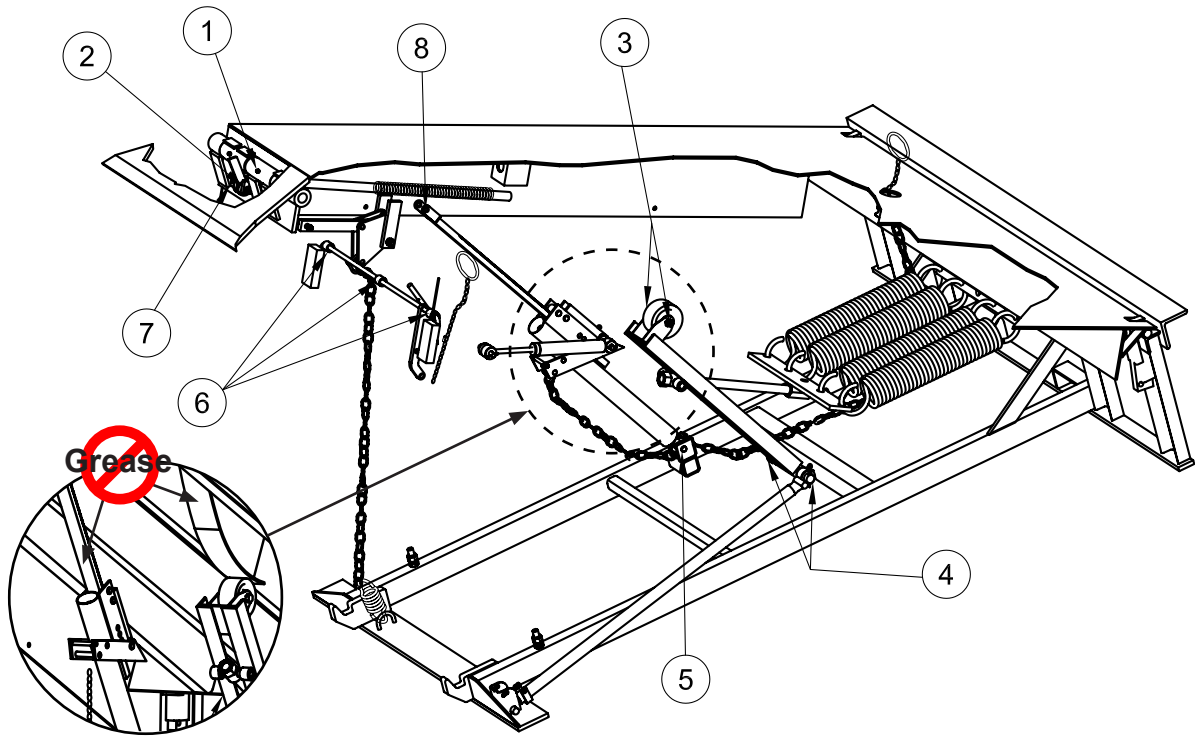

Figure 26
- Lubricate the following areas with light weight machine oil (see Figure 26):